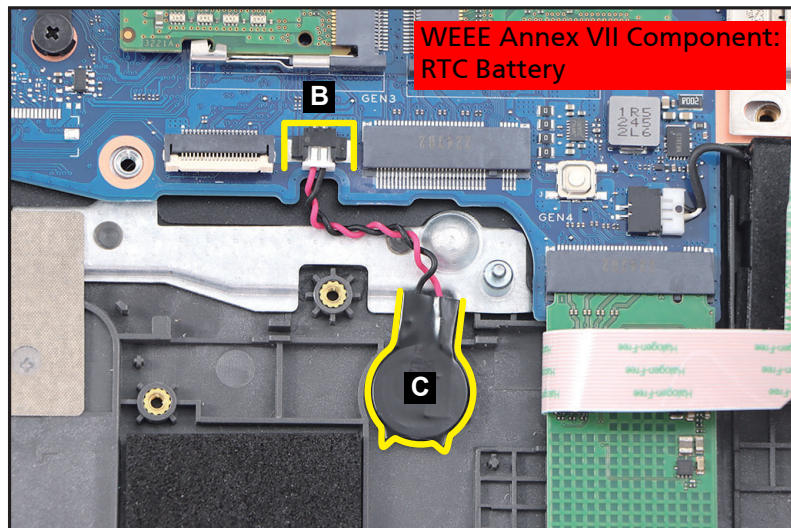

Figure 1-22. RTC Battery Removal
2. Disconnect the RTC battery cable from the mainboard connector (B) (Figure 1-22).
3. Using plastic tweezers, carefully pry to detach the adhesive tape underneath the RTC battery (C) and then remove the RTC battery (Figure 1-22).